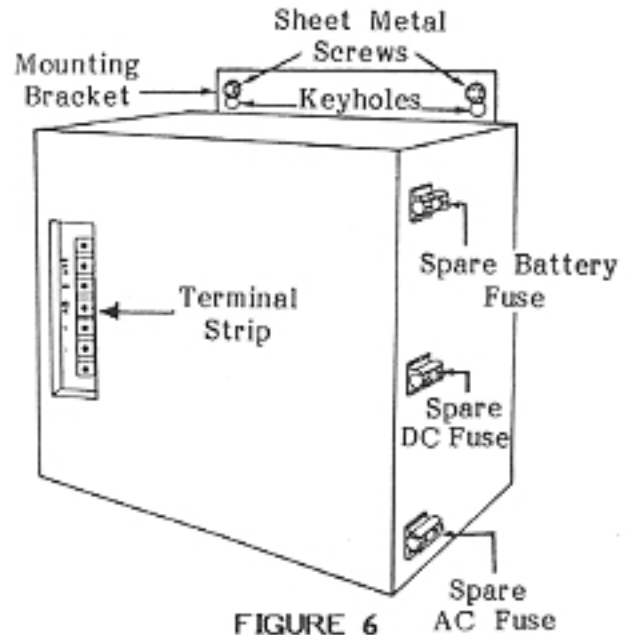

FIGURE 6
01.24 Place the EPSA against the mounting surface with the screws protruding through the holes (Figure 6).
01.31 Remove the spare fuses from the hardware carton, and place them in their individually marked holders (see Figure 6).